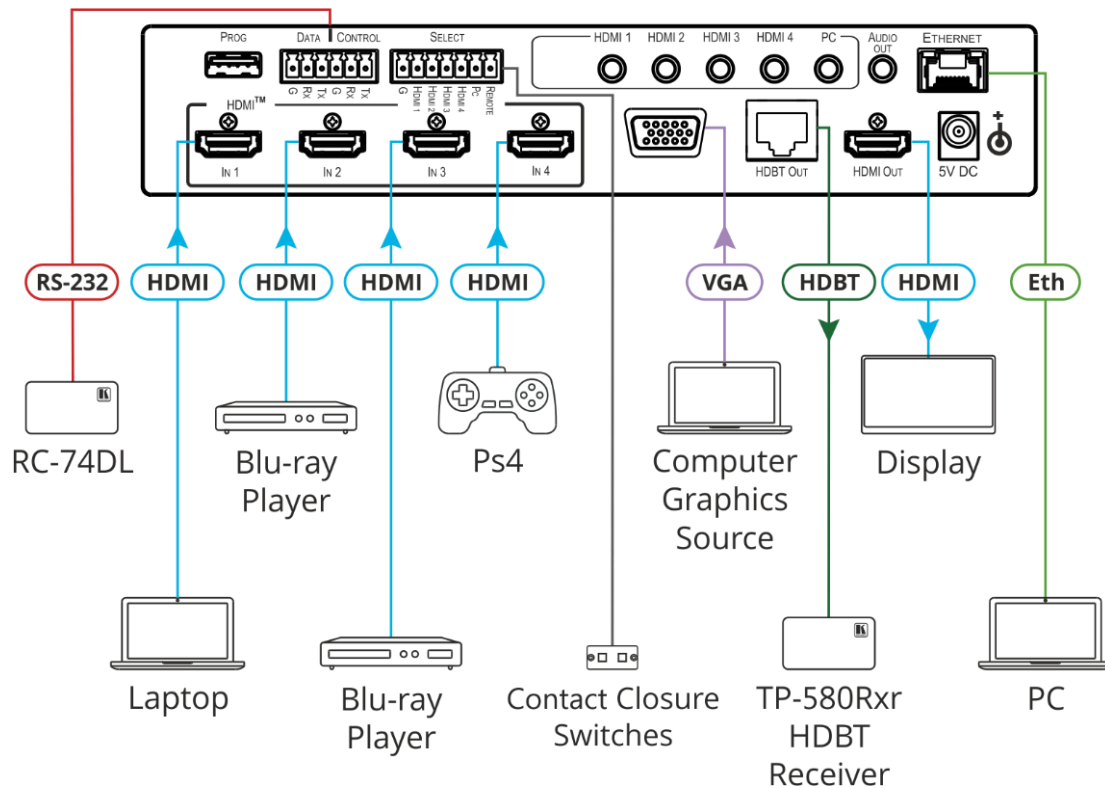

Figure 3: Connecting to the VP-440X Rear Panel
To connect the **VP-440X** as illustrated in the example in Figure 3:
- A computer graphics source to the PC IN 15-pin HD connector (14).
- HDMI sources (for example, a laptop, two Blue-ray players, and a gaming console) to the four HDMI IN connectors (9).
- Connect an analog stereo audio source (not shown in Figure 3) for each of the four HDMI inputs (15) and for the PC input (16) to the 3.5mm mini jack connectors.
- An HDBaseT receiver (for example, Kramer **TP-580Rxr**) to the HDBT IN RJ-45 connector (17).
- An HDMI acceptor to the HDMI OUT connector (19).
- Connect an unbalanced stereo audio acceptor (for example, active speakers, not shown in Figure 3) to the AUDIO OUT 3.5mm mini jack (18).
- Connect a laptop to the Ethernet RJ-45 connector (20).
- Connect the 5V power supply to the 5V DC power terminal block (21).
- Connect a PC or serial controller (not shown in Figure 3) to the CONTROL (Tx, Rx, G) terminal block connector (12), to control the unit via serial control.